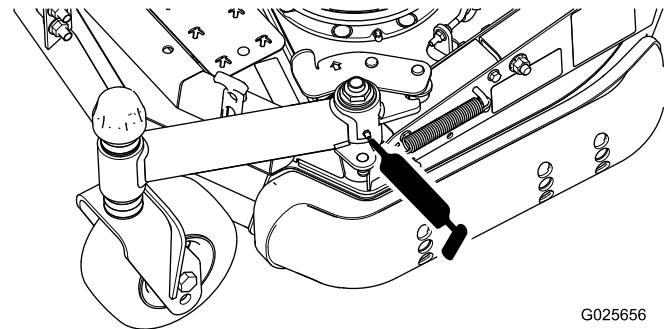

Figure 17
- Pivot de bras pivotant repliable (1) (Figure 17)